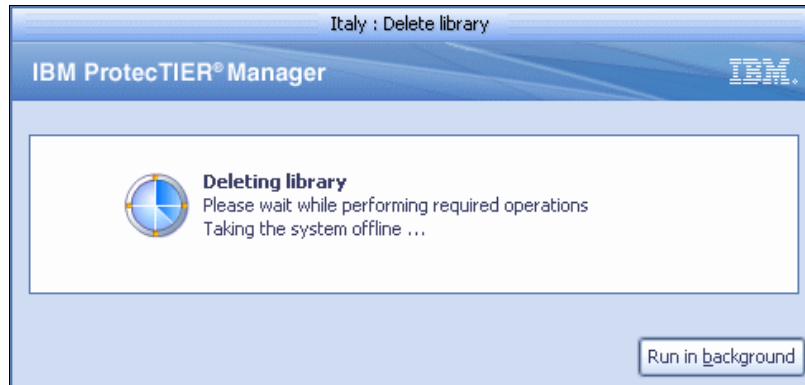

Figure 10-56 Deleting library window
5. Click **Yes**. The ProtecTIER system temporarily goes offline to delete the library (Figure 10-56).